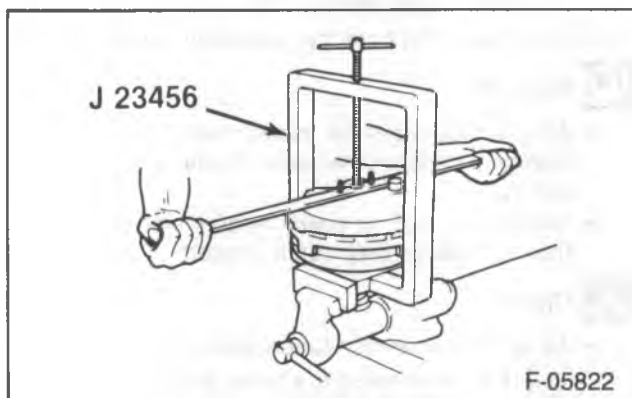

Figure 21—Unlocking and Locking Booster
1. Boot (1) and silencer (2).
2. Vacuum check valve (3) and grommet (4).
3. Front housing seal (5).
- Use J 23456 to apply force in a counter clockwise direction to unlock the housings (figure 21).
4. Return spring (9) and power piston group.
5. Power piston bearing (6) from the rear housing (7).
6. Reaction body retainer (25).
7. Piston rod (10) and reaction retainer (11).
8. Filter (12) using an awl or similar tool.
9. Power piston and pushrod assembly (16).
- Grasp the outside edge of the diaphragm support (15) and diaphragm (14). Hold the pushrod (19) down against a hard surface.
- Use a slight force or impact to dislodge the diaphragm retainer (13).
10. Diaphragm (14) from the diaphragm support (15).
3. Front housing seal (7).
- Unlock the front and rear housings using J 23456 (figure 21).
- Check that the beads on the secondary diaphragm (20) are seated evenly around the complete circumference.
- 16. New diaphragm retainer (15) and seat using J 28458.
- 17. Silencer (14), reaction retainer (13) and piston rod (12).
- Lubricate the inside and outside diameters of primary piston bearing (8) with silicone grease.
- 18. Primary piston bearing (8) into the rear housing (9).
- 19. Power piston group (38) into the rear housing (9).
- 20. Return spring (11).
- Lock the front and rear housings using J 23456 (figure 21).